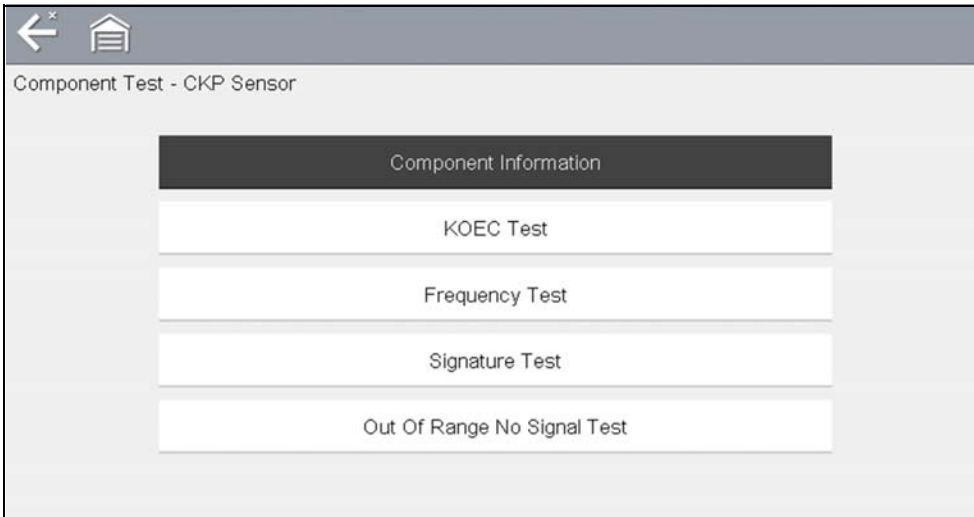

Figure 11-5 Component Tests Menu
2. Select **Component Information** from the Component Test menu (Figure 11-5).